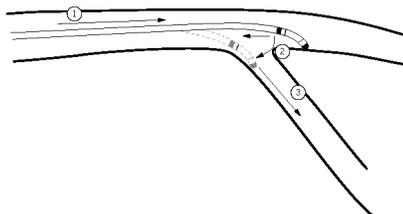

Figure 13. Lead placement using the Retract or Pull Method with a stylet.
1. Advance the lead, pre-straightened with a stylet fully inserted, past the junction of the branch vein (Figure 13).
2. Retract the stylet and "drag" the lead backwards to allow it to deflect into the target branch (Figure 13).
3. Advance the lead further into the branch vein, using the stylet as necessary (Figure 13).